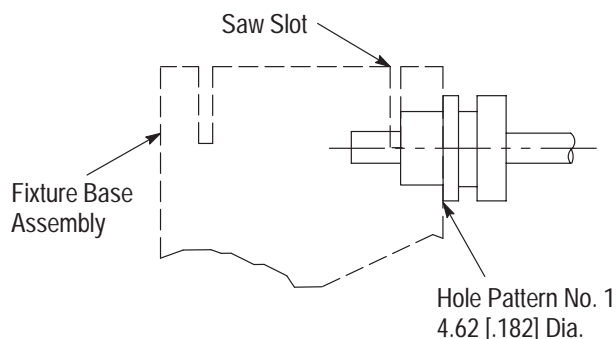

Figure 6
1. Insert the squared cable end into the fixture base hole pattern No. 1 as shown in Figure 6.